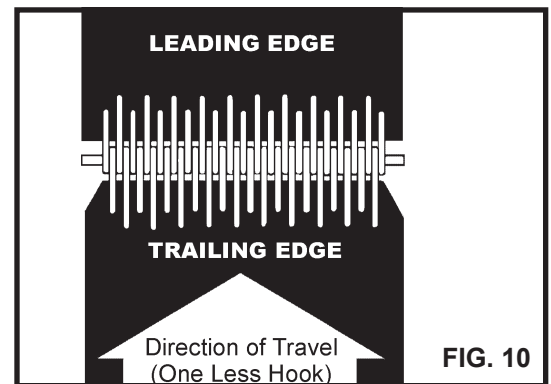

FIG. 10
2. The trailing end of the belt should have one less hook than the leading end (See Fig. 10). This prevents hooks from getting caught on the conveyor framework and pulling out. The trailing end should be notched after hooks are installed to prevent belt rips/tearing.